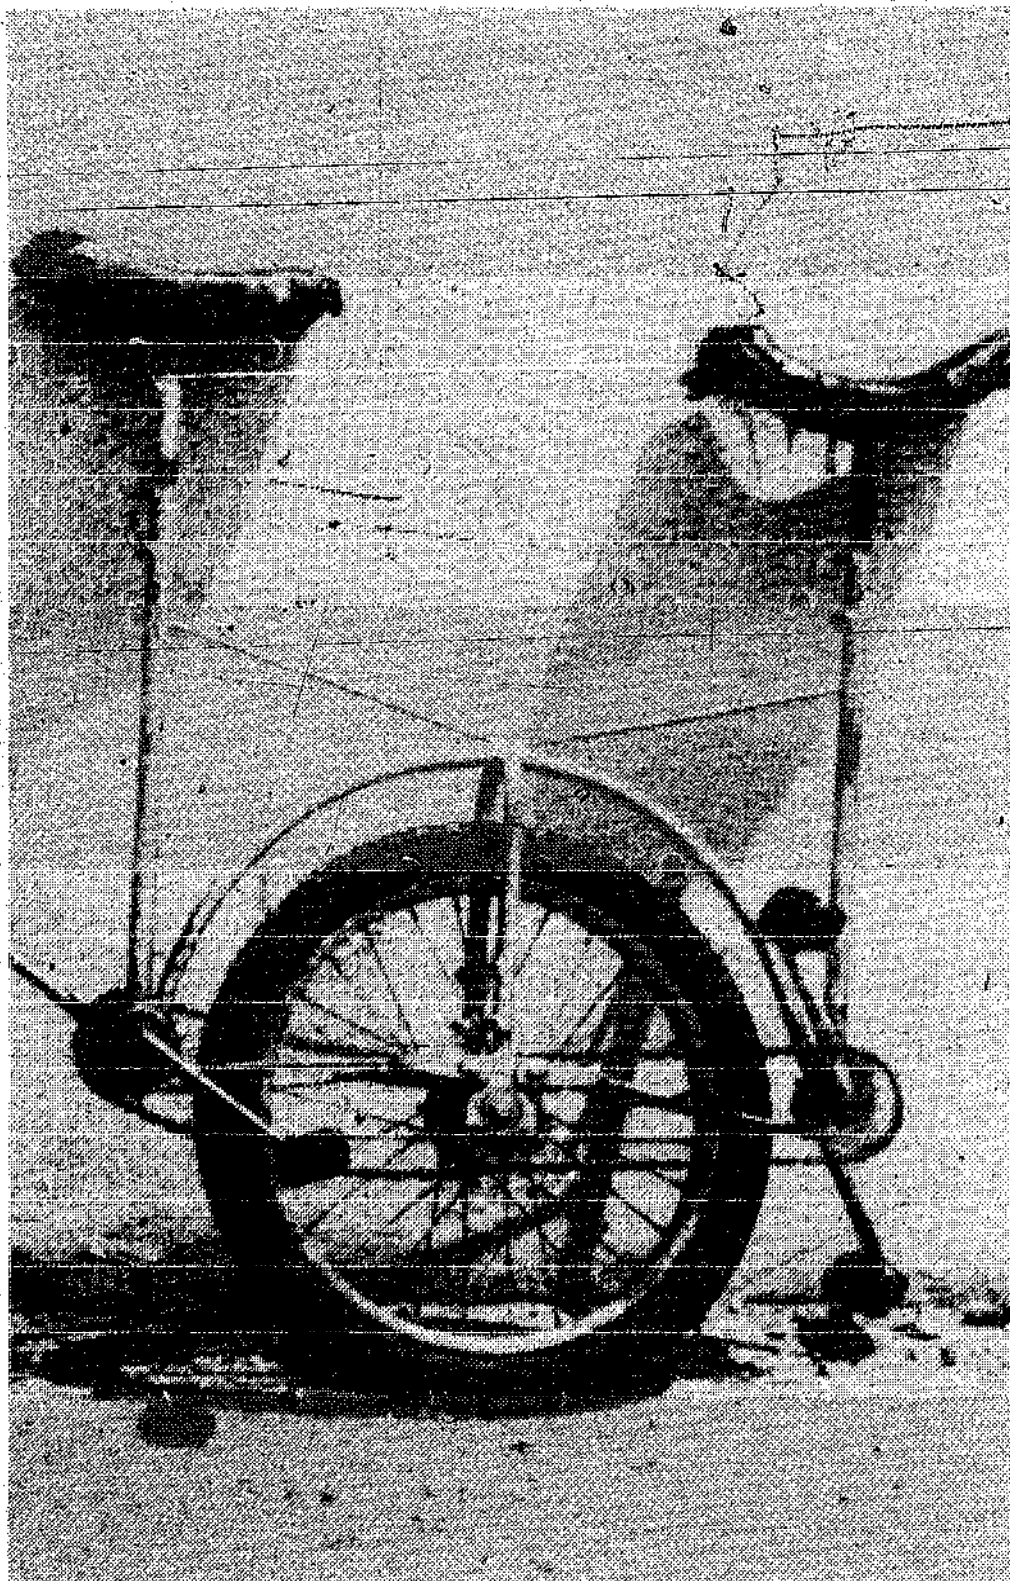

Fig. 15-27. A tandem unicycle.
**Tandem Unicycle.** This tandem unicycle (Fig. 15-27) is used by the *Great Y Circus* in Redlands, California. It is ridden in a straight line.